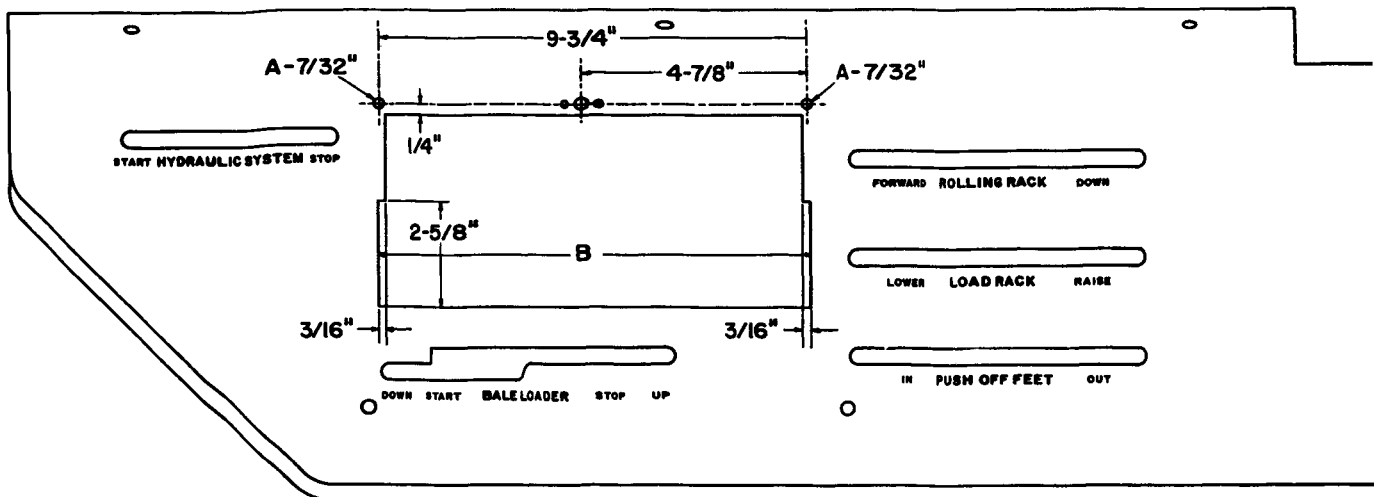

FIGURE 2-3
6. Drill two $7/32$ " holes at A, Figure 2-3, in the console. File notches on both sides of the opening as shown at B, Figure 2-3.